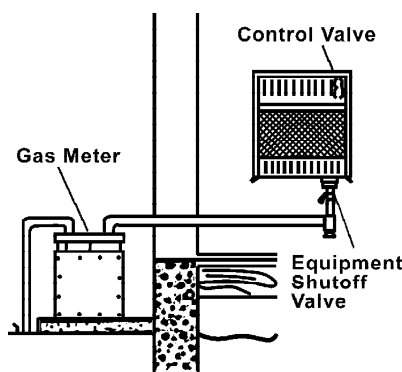

Figure 14-Checking Gas Joints
3. Check all joints from gas meter to equipment shutoff valve (see Figure 14). Apply mixture of liquid soap and water to gas joints. Bubbles forming show a leak.
4. Check all joints from equipment shutoff valve to control valve (see Figure 14). Apply mixture of liquid soap and water to gas joints. Bubbles forming show a leak.